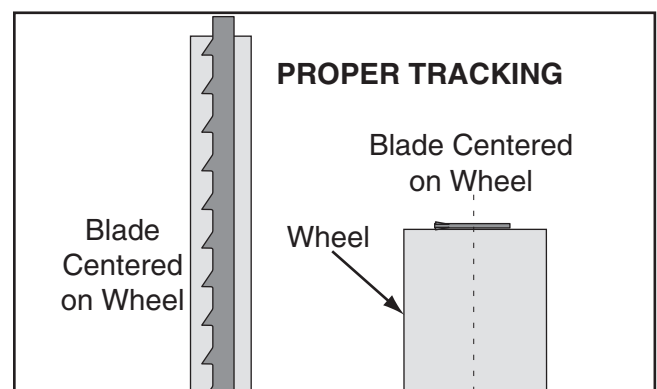

Figure 18. Blade centered on crown of wheel.
Bandsaw wheels are either flat or crowned and both shapes track differently. The G0803Z has crowned wheels. As the wheels spin, a properly tracking blade naturally tracks at the center of the wheel (see **Figure 18**).
6. Rotate upper wheel by hand several times and watch how blade rides on wheel (see **Figure 18** on **Page 17** for an illustration of this concept).